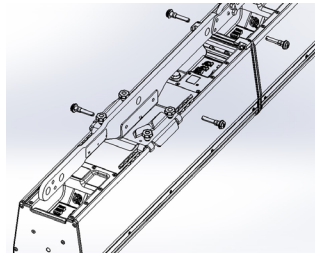

Figure 10 - Pin stinger assembly to mount plate
- Using pins on mount, secure stinger assembly to mount plates (Figure 10)